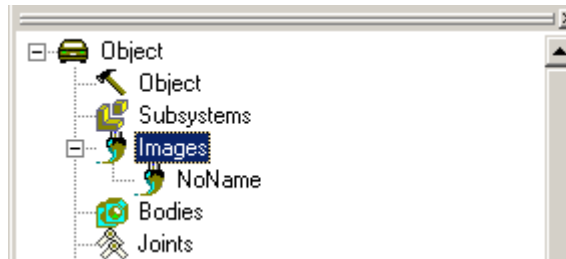

Figure 2.13
1. Load a graphical object from the `{um_root}\bin\graph\Base1.umi` file using  button or **Edit | Read from file...** menu item. Element «NoName» will be added to the list of graphic elements, see Fig. 2.13.